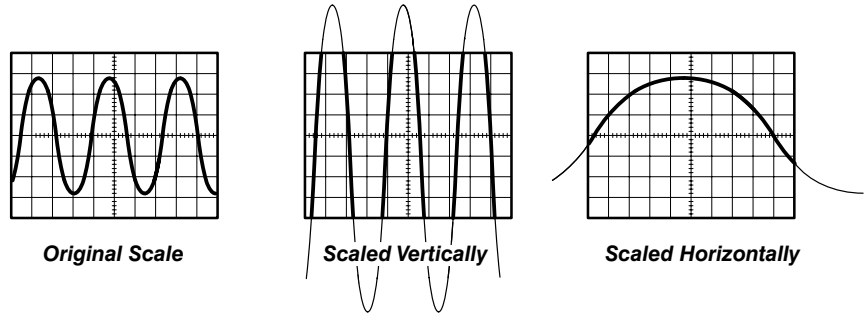

Figure 2-3: Examples of Scaling
- The **waveform scaling and positioning** system, which changes the dimensions of the waveform display. Scaling waveforms involves increasing or decreasing their displayed size (Figure 2-3). Positioning means moving them up, down, right, and left on the display. See page 2-21.